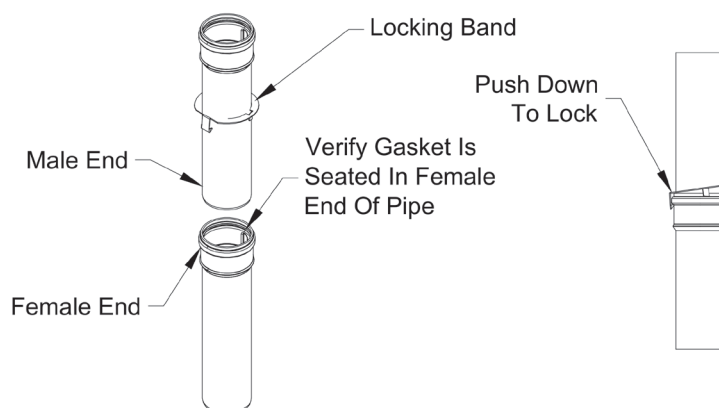

Figure 7.34: PolyPro Locking Band Installation
- c. For each joint, verify that the gasket is evenly seated in the bell (female) end of the pipe. Lubricate this gasket with water. Slide a locking band over the male end of the pipe to be joined as shown in Figure 7.34. Push the male end of the next section of pipe into the bell until it bottoms out, then back out 1/4-5/8" to provide room for thermal expansion. Push barb on locking band over the bell end of the first section of pipe as shown in Figure 7.34.